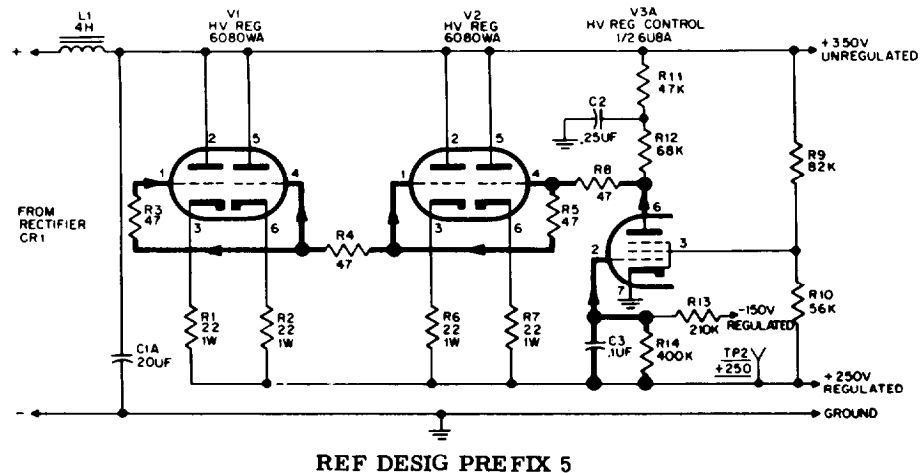

Figure 4-91. +250 Volt Regulator Circuit, Simplified Schematic Diagram
(C) POSITIVE 250 VOLT CIRCUIT ANALYSIS. - Figure 4-91 is a schematic diagram of the +250 volt power supply regulator circuit. High voltage rectifier 5CR1 (figure 5-59) is a full-wave silicon bridge rectifier having general characteristics similar to 5CR2 in the negative low voltage supply. The input to the rectifier is nominally 400 volts ac. Reactor 5L1 and capacitor 5C1A filter the voltage from rectifier 5CR1.